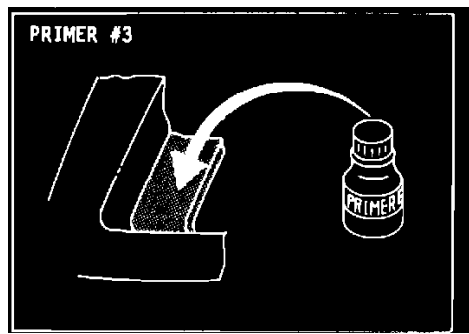

FIGURE 6
8. Using the second small brush in the kit, apply primer bottle # 3 to the body/paint surface at the areas indicated (Figure 6).